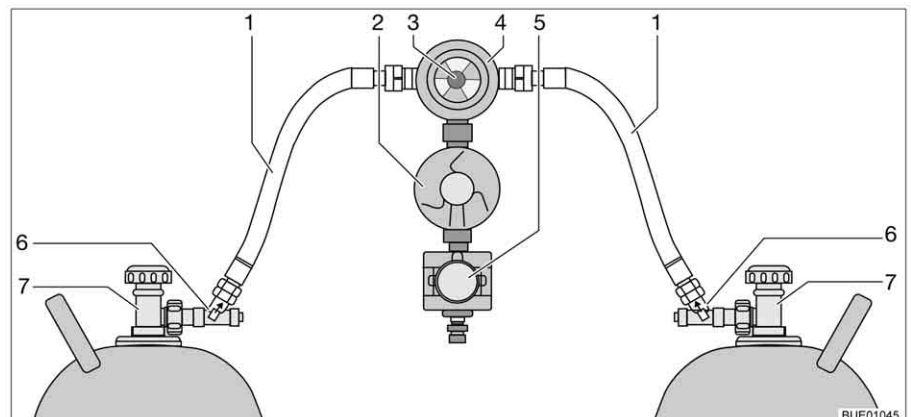

Fig. 143 Crash protection unit switching facility
The crash protection unit consists of two flow restrictors with manual release button (Fig. 143,6) a reversing valve (Fig. 143,4) with pressure regulator (Fig. 143,2), an electrovalve (Fig. 143,5) and the operating unit with tricoloured LED. The reversing valve is installed between the two gas tubes (Fig. 143,1).
Use the knob (Fig. 143,3) on the reversing valve to select which of the gas bottles is to be used as a primary bottle and which is to be used as a reserve bottle.
Only the electrical functions can be switched at the operating unit (Fig. 144). The regulator taps on the gas bottles (Fig. 143,7) and the release buttons (Fig. 143,6) must be opened manually.
- Open the regulator taps of the gas bottles (Fig. 143,7).
- Press the release buttons (Fig. 143,6) successively for 10 seconds.
- Use the knob (Fig. 143,3) on the reversing valve (Fig. 143,4) to select the gas bottle which is to be the primary source of gas (primary bottle). Always turn the knob as far as it will go.
- Close the regulator taps of the gas bottles (Fig. 143,7).